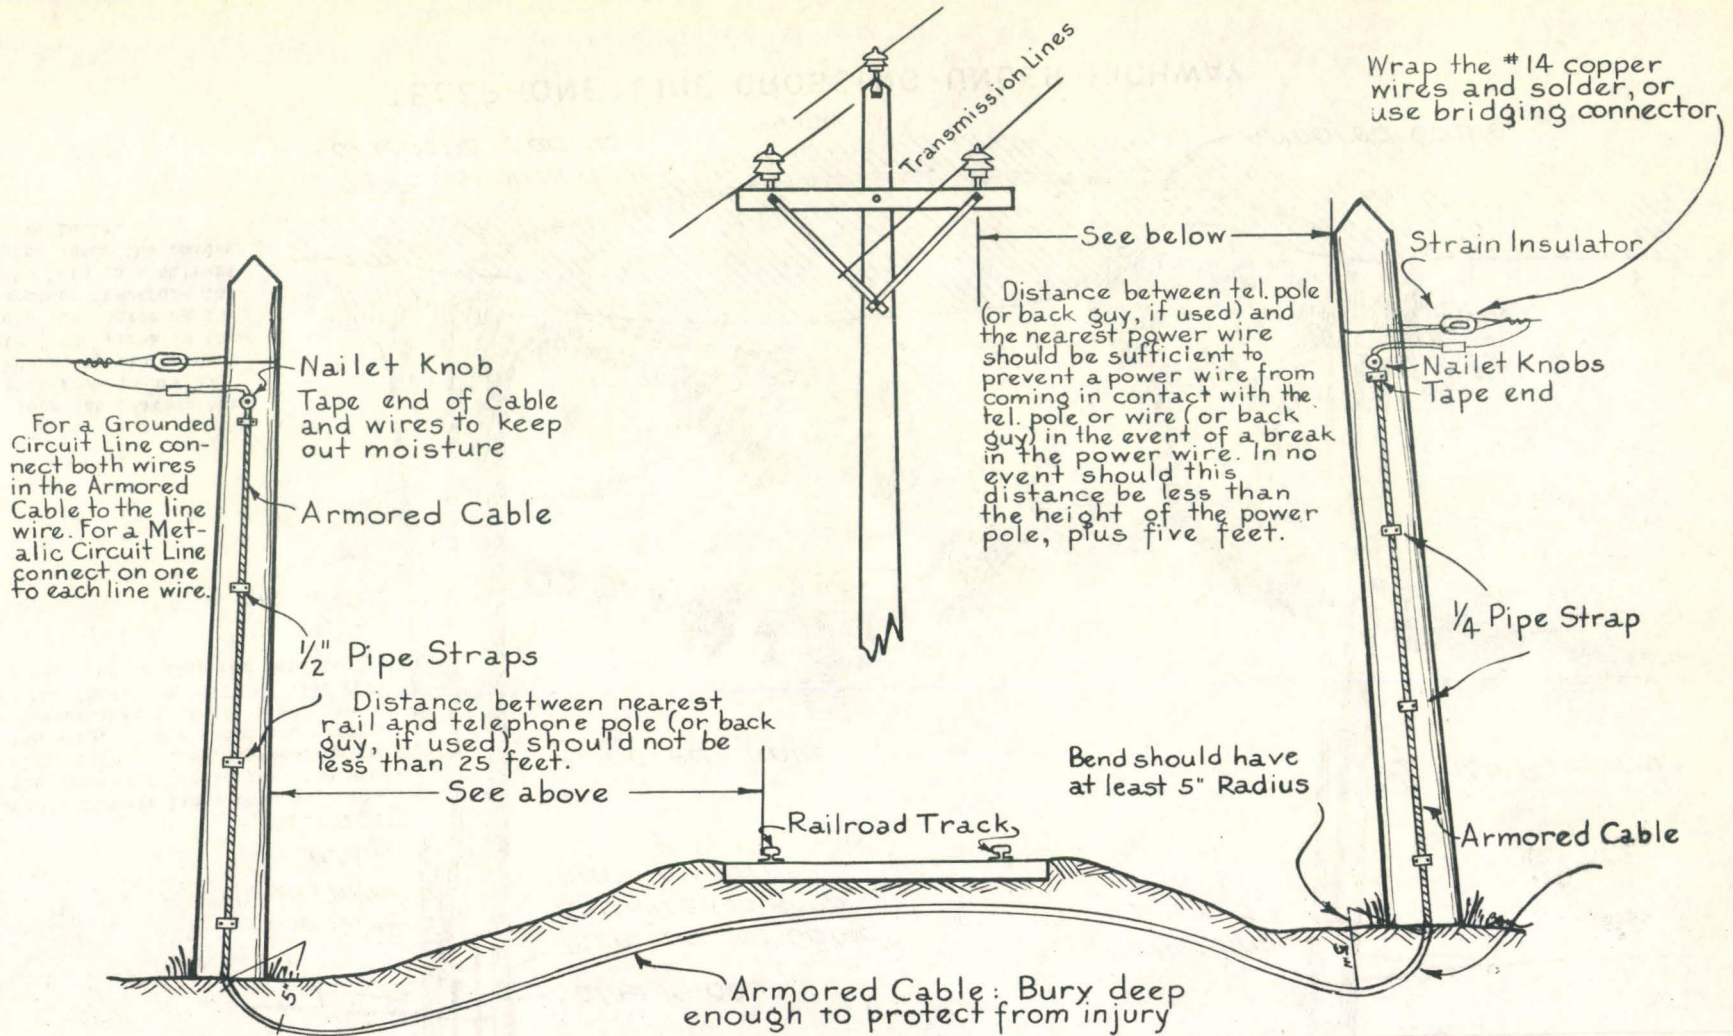

FIGURE 34
2. Railroad: A crossing with a railroad right of way must be made as required by the railroad company and in compliance with the State laws. They should ordinarily be made underground as shown in Figure 34. In no event should a buy or pole be set closer than 25 feet to the center of the track.
3. Electric Power Lines: If the power line is properly constructed and carries not to exceed 7500 volts, the crossing may be aerial with the telephone line at least 6 feet below the wires. Where the power line voltage is from 7500 to 25,000 volts, an underground crossing is preferable, made according to Figure 34. If an underground crossing is not practicable, an aerial crossing may be made with the telephone line at least 9 feet below the power line. Where the power line voltage is in excess of 25,000 volts, the crossing must be made underground in all cases unless otherwise specified by the Regional Forester.